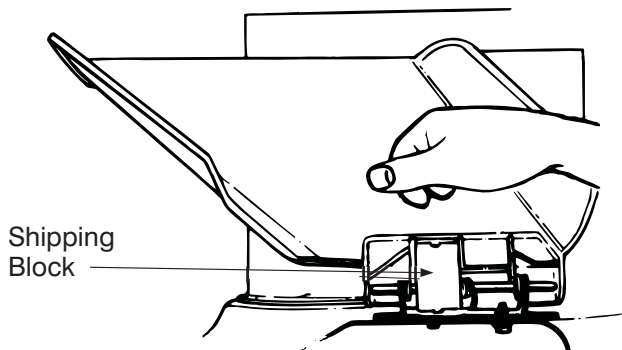

Figure 9
## Chute Deflector (See Figure 9)
- The chute deflector on your mower may be held in an upright position by a block for shipping purposes only. This shipping block must be removed and discarded before the mower is put into operation. See Figure 9.